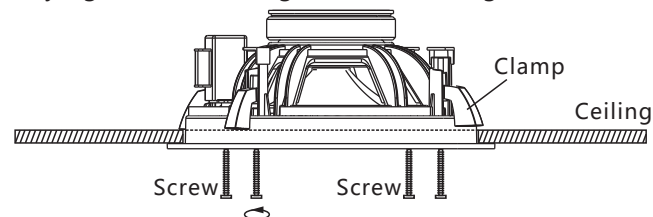

Figure 4
- ⑤ Tighten the four screws to secure the four clamps, so that the clamps can firmly tighten the ceiling (as shown in Figure 4).